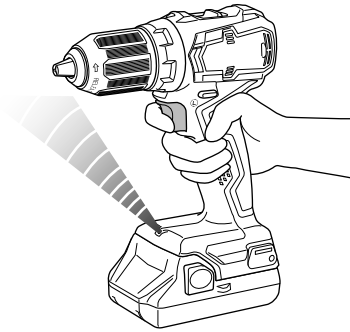

Fig. 16
12. LED light warning signals (Fig. 16)